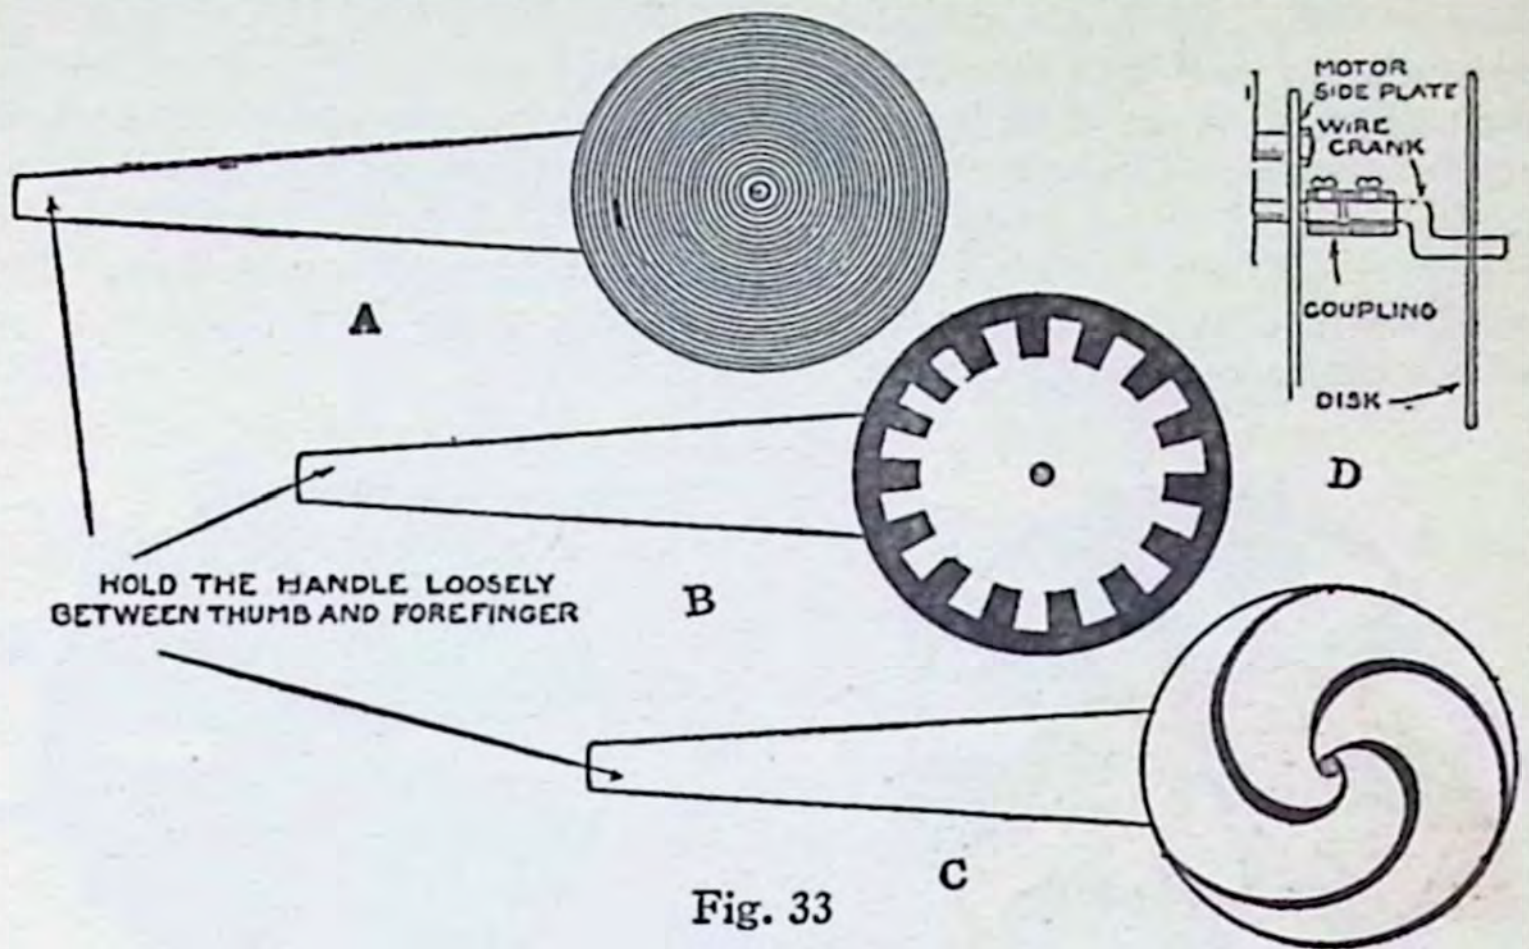

Fig. 33
(39) **THREE GOOD OPTICAL ILLUSIONS:** Cut out three disks of cardboard 2 inches in diameter and with 3-inch handles to them as shown at A, B, and C in Fig. 33, and punch a small hole in the center of each one. Now screw the shaft coupling to the shaft of your motor and screw a wire crank in the other end of the shaft coupling as at D.